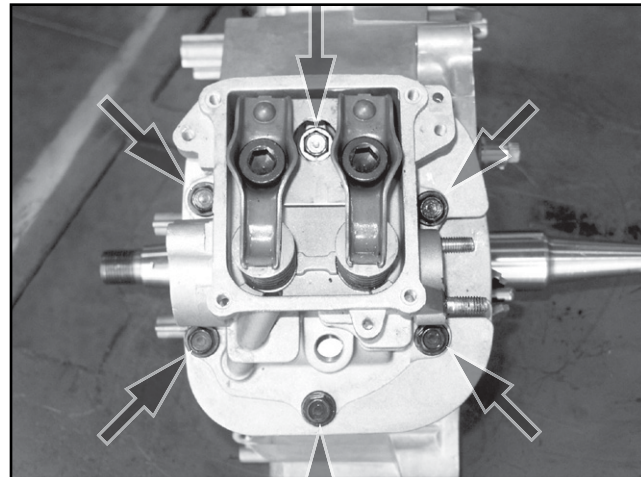

Figure 5-4. Remove Cylinder Head
3. Remove head bolts and cylinder head (Figure 5-4).